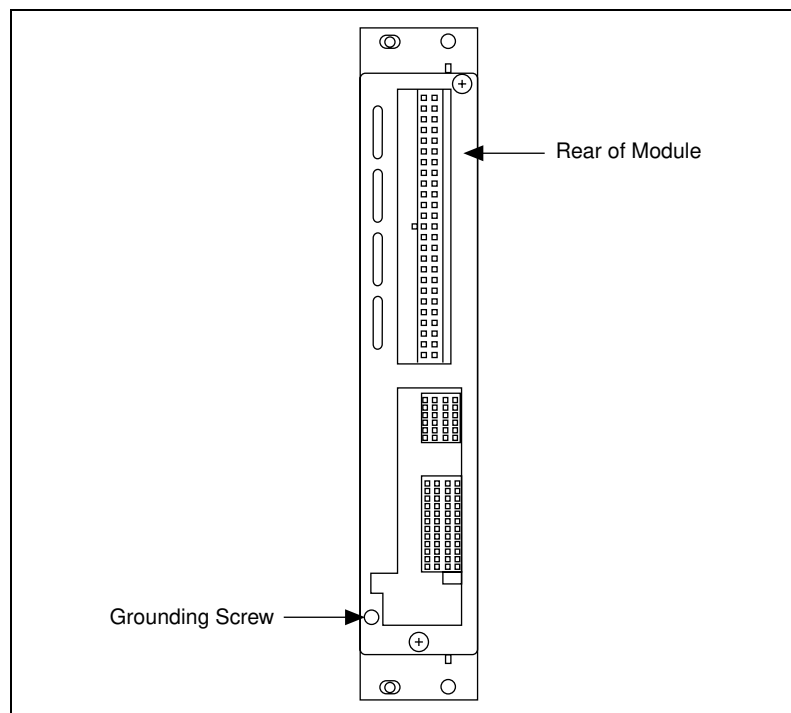

Figure 3-1. Removing the SCXI Module Grounding Screw
You may need to configure your SCXI modules before using them in your application. Some SCXI modules have a number of user-configurable jumpers that you can access by removing a single screw on the back of the module, as shown in Figure 3-1.
1. Remove the grounding screw shown in Figure 3-1.